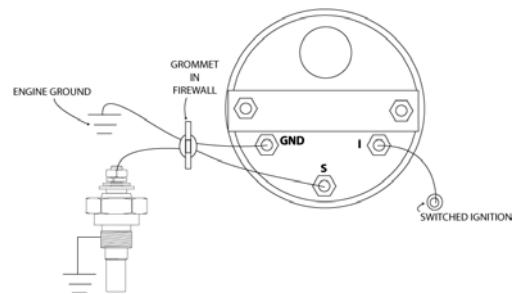

Figure 1
5. Using a length of 18 AWG wire, connect the sender signal terminal to the signal terminal on the back of the temperature gauge as seen in **Figure 1**.
1. Verify Wiring connections are correct according to the gauge wiring in **Figure 1**.